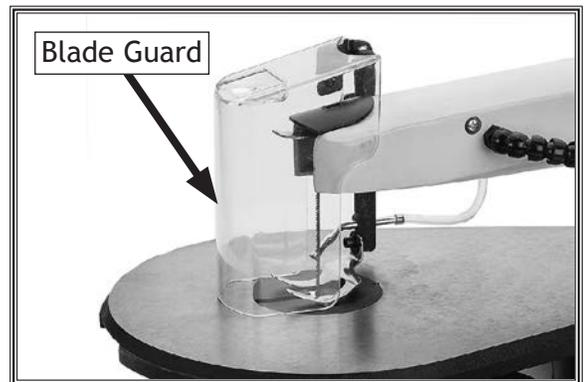

Figure 33. Blade guard position example.
1. Position guard so it covers hold-down shoe and touches table (see Figure 33).